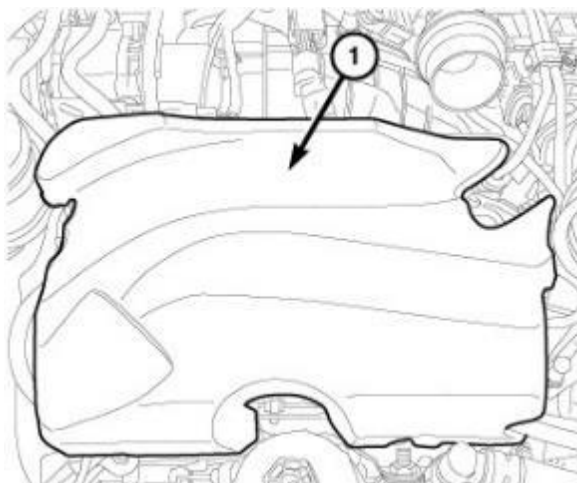

Figure 17 – Silencer Pad
12. Remove the fuel injector silencers (1) (Figure 17).